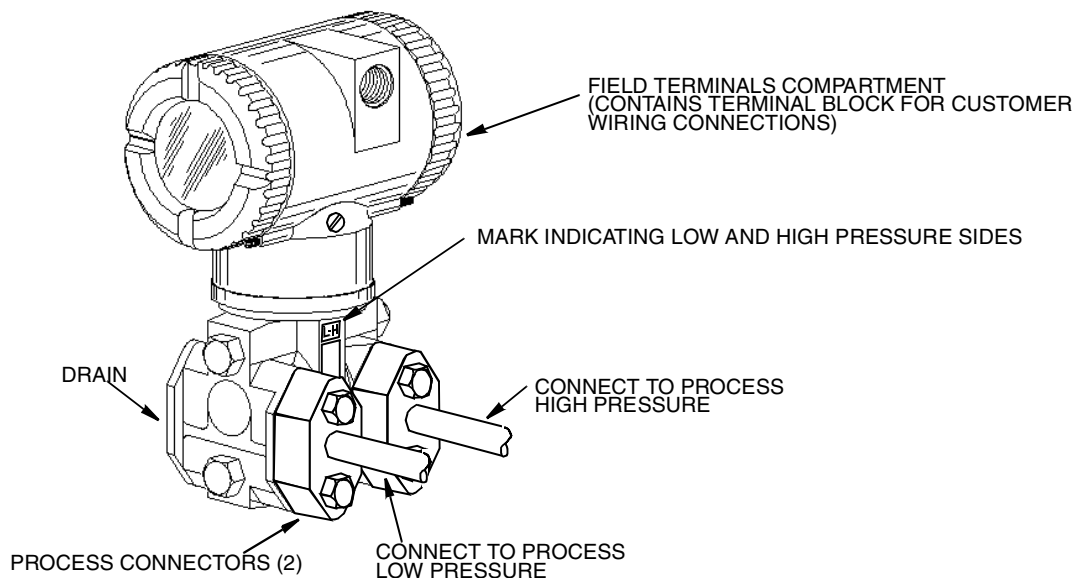
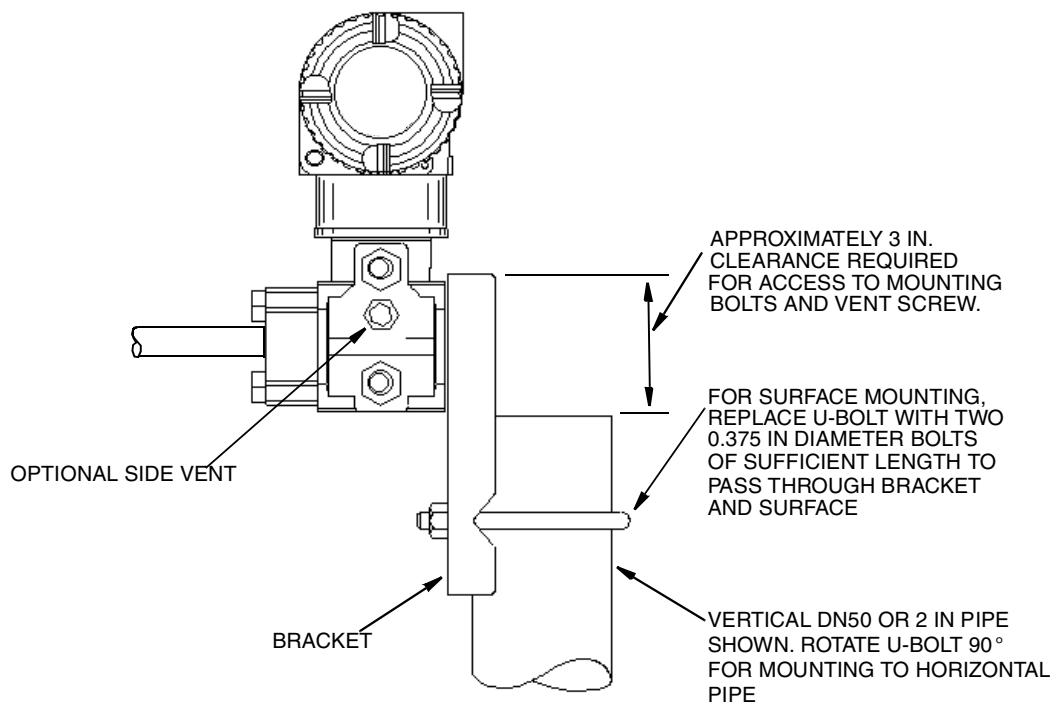

Figure 6. Process-Mounted Transmitter
Figure 7. Mounting Transmitter to a Pipe or Surface
3. If the transmitter is not installed in the vertical position as shown in Figure 6 or Figure 7, readjust zero output to eliminate the position zero effect.
The IDP10, IDP25, and IDP50 differential pressure transmitters can be supported by the process piping as shown in Figure 6 or mounted to a vertical or horizontal pipe or surface using the optional mounting bracket shown in Figure 7. For dimensional information, refer to DP 020-446.
Figure 6 shows the transmitter mounted to and supported by the process piping.
Referring to Figure 7, secure the mounting bracket to the transmitter using the two lockwashers and screws provided. Mount the transmitter with the mounting bracket to a vertical or horizontal, DN 50 or 2-in pipe. To mount to a horizontal pipe, turn the U-bolt 90° from the position shown in Figure 7. The mounting bracket can also be used for wall mounting by securing the bracket to a wall using the U-bolt mounting holes.